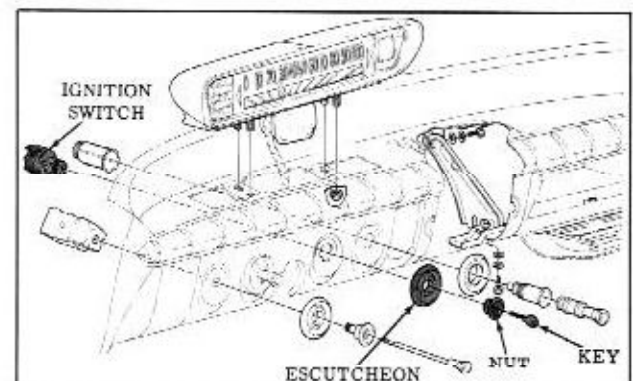

Fig. 13-65 Ignition Switch
4. Slide switch through instrument panel opening from the back side of the instrument panel. (See Fig. 13-65)